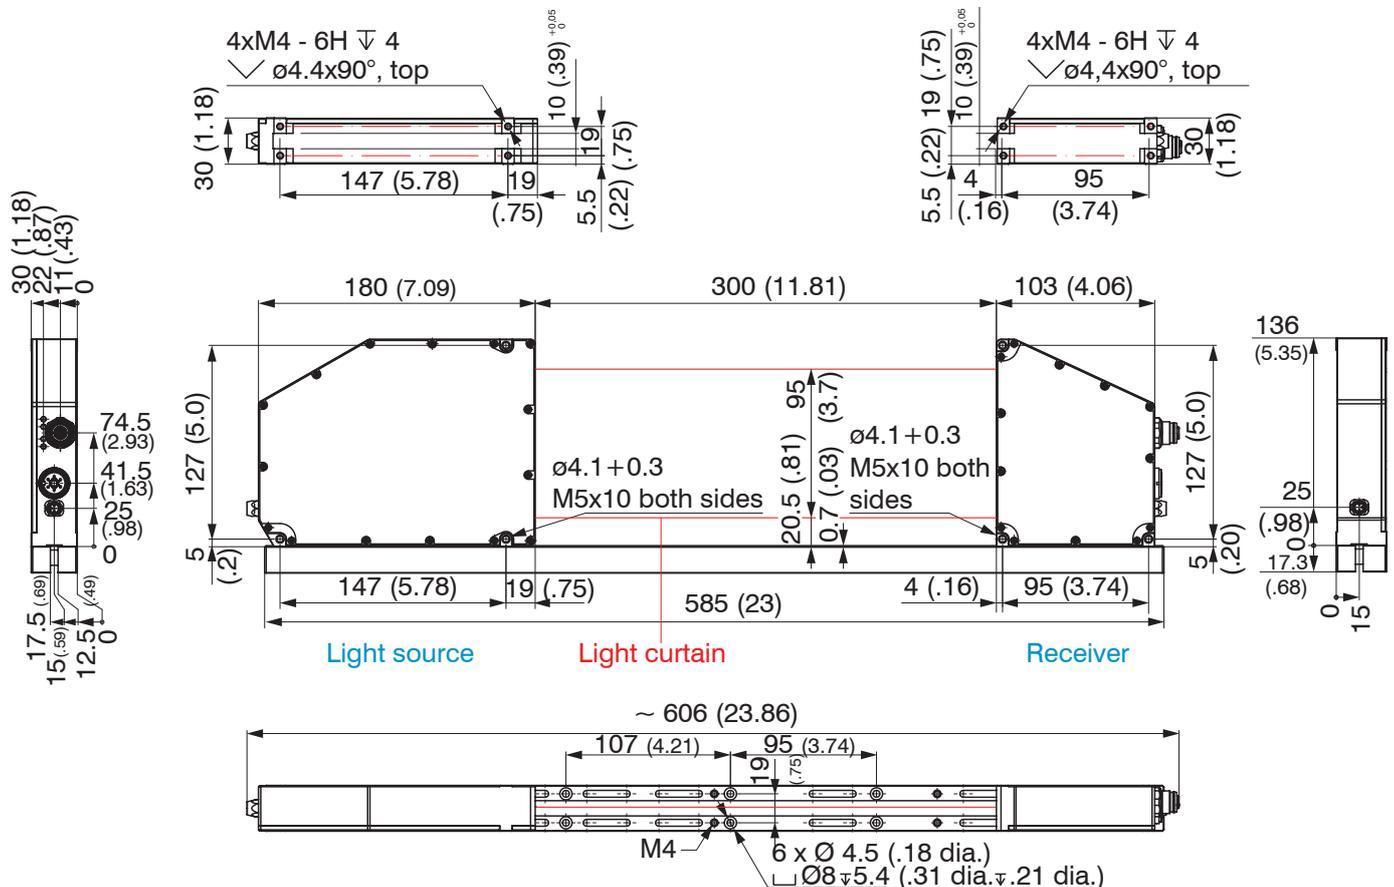

Fig. 12 Dimensional drawing optoCONTROL 2520-95, dimensions in mm (inches)
Please refer to the previous drawings, for the assembly drawing of the optoCONTROL 2520-95 and the option optoCONTROL 2520-95(270) for mounting on the DIN rail, see Fig. 12, see Fig. 13.